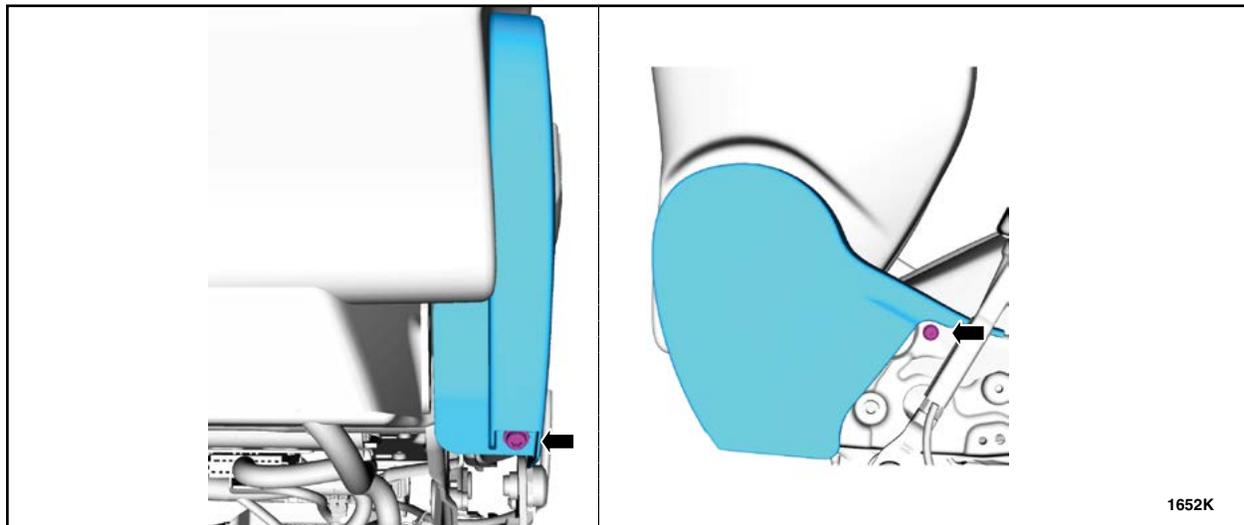

FIGURE 12
7. Remove the two screws and the recline cover. See Figure 12.